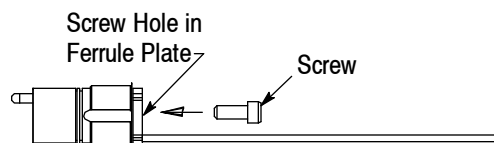

Figure 11
2. Align the end of the ferrule assembly with the appropriate channel cavity of the EB insert, and insert the ferrule assembly into the channel cavity until the O-ring is against the channel cavity. See Figure 11, Detail A. To avoid damage to the fiber, **DO NOT** push the fiber to install the ferrule assembly.
3. Slide the spring over the fiber until it is against the O-ring of the ferrule assembly. Using the ferrule insertion tool, push the spring until the ferrule assembly bottoms in the channel cavity (the spring will protrude slightly from the cavity). See Figure 11, Detail B.
4. Align the index pin hole of the ferrule plate with the index pin at the back of the EB insert, and slip the fiber into the closest slotted hole in the ferrule plate. See Figure 11, Detail C.
5. Hold the ferrule plate against the EB insert, making sure that the index pin enters the index hole. Thread the screw through the screw hole in the ferrule plate and into the hole in the EB insert. See Figure 11, Detail D. Using the 2-mm hex wrench and torque wrench or torque stand, tighten the screw to a torque between 0.8 and 1 N-m. Check to make sure that the ferrule plate is flush with the EB insert.